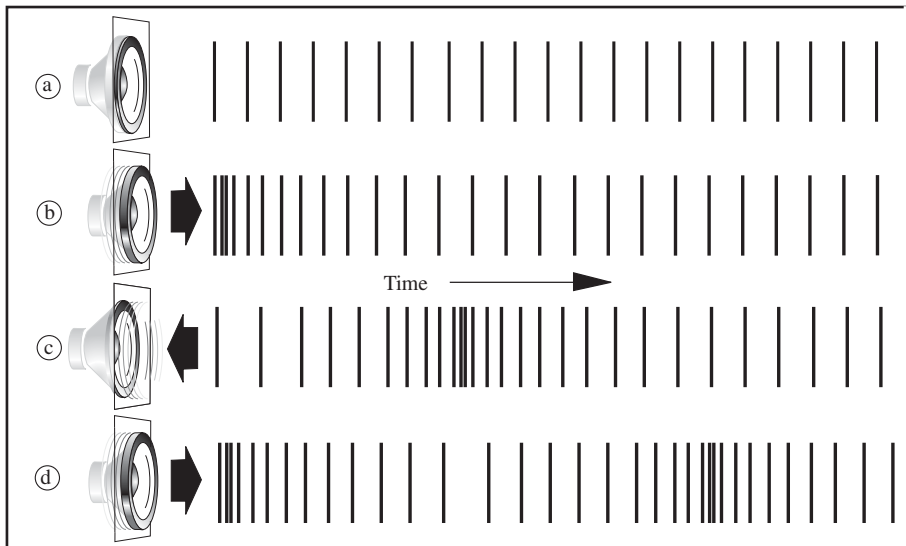

FIGURE 2.1
- **What are sound waves?** Sound waves are a series of waveforms combining wavelength (frequency) and amplitude (pressure.) Figure 2.1, (a) shows a speaker at rest, creating no changes in air pressure. Sending a sine wave or single frequency to the speaker introduces changes in air pressure using compression (b) and refraction (c). The cycle repeats itself (d), creating sound waves. Sound waves ripple through the atmosphere at a constant speed; about 1125 feet per second.